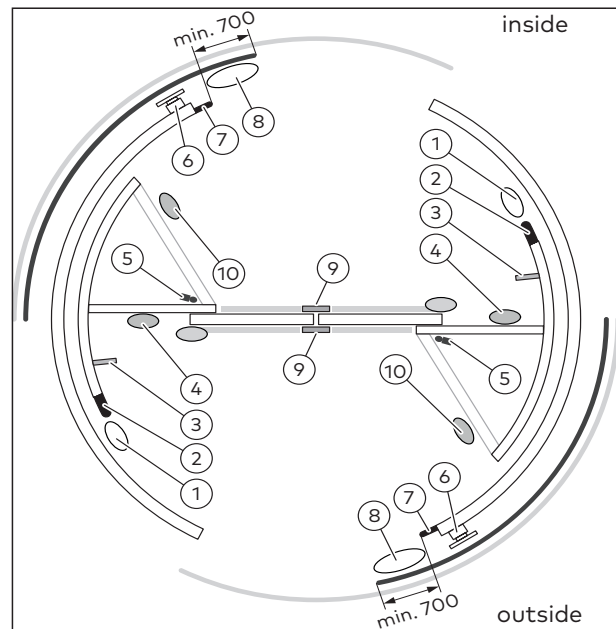

Fig. 111 Safety equipment and operating elements (example)
2. Test the available emergency stop buttons (Fig. 111/6).
- Forward presence sensors (Fig. 111/1)
- Light barrier (Fig. 111/3)
- Top Sensor on door leave (Fig. 111/4)
- Door leaf switches showcase (Fig. 111/5) *
- Canopy sensors (Fig. 111/8)
- Safety sensor sliding door (Fig. 111/9)
- Person detection sensor (Fig. 111/10)
6. Check the active safety bumper – leading mullion (Fig. 111/7) for reliable response on entrance and exit.